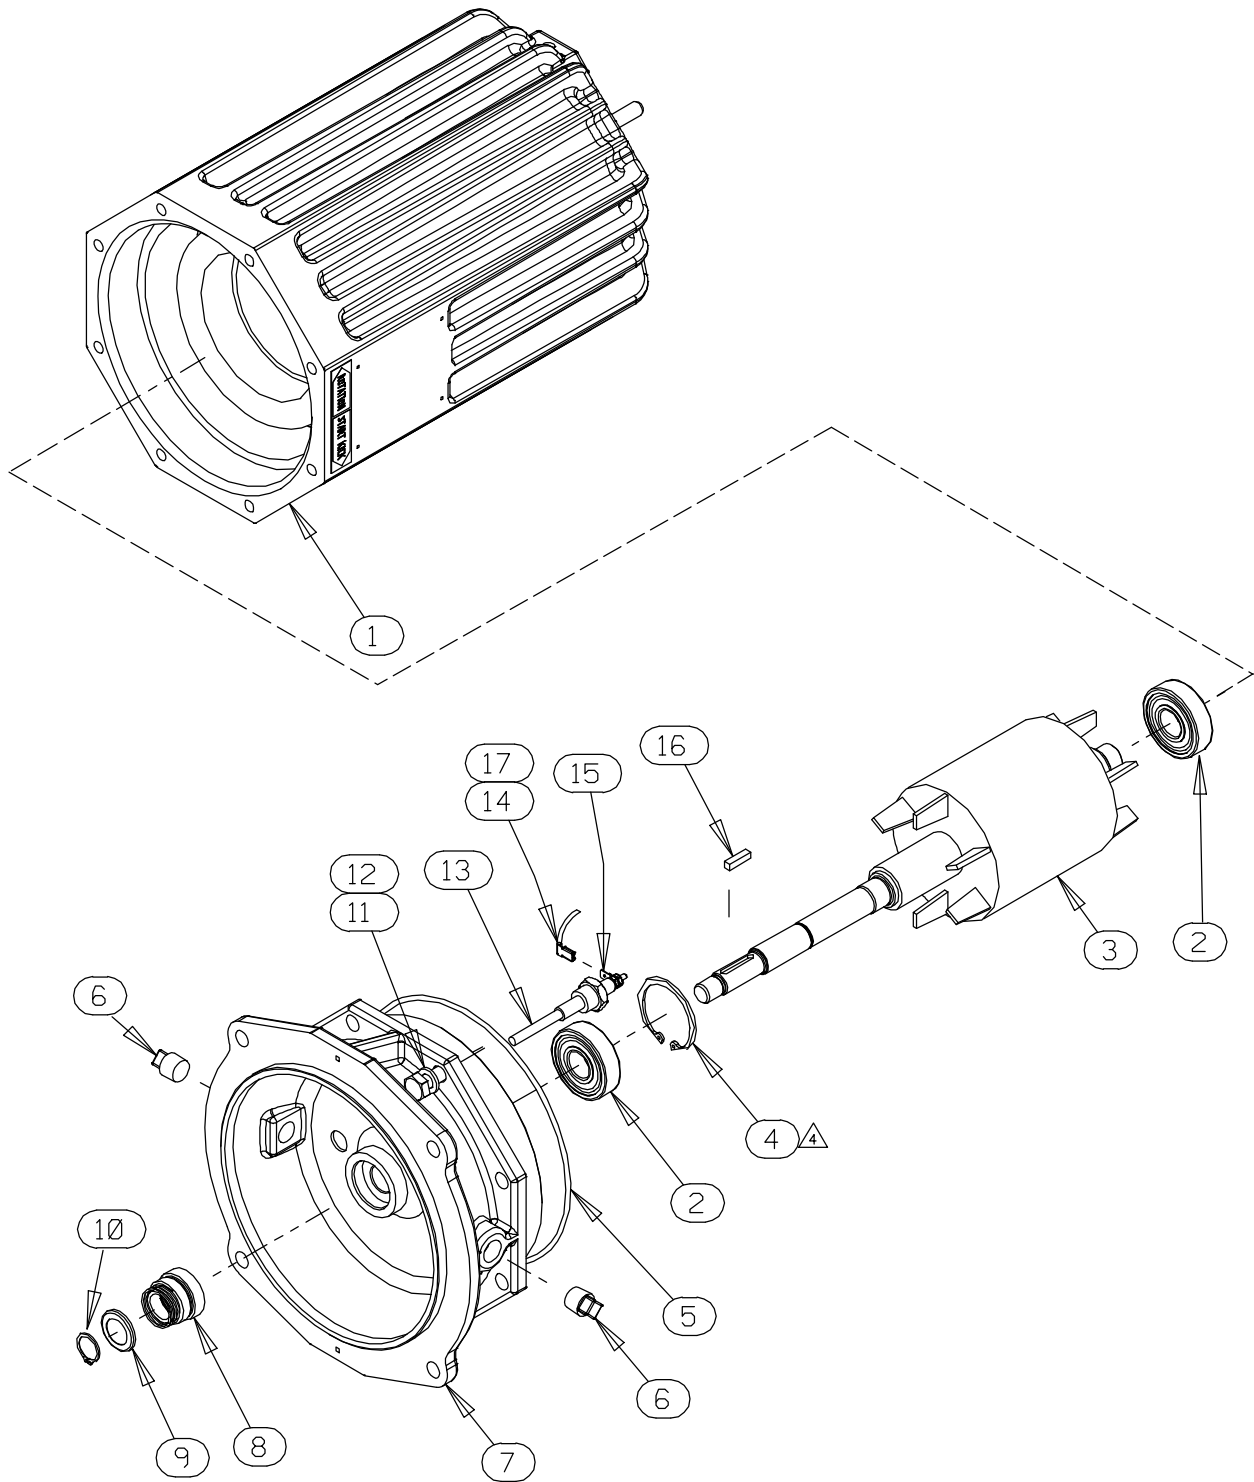

Figure E-2. 47111-801, -804, -805 and -851 Motor Assemblies
(Figure E-2)
To remove the impeller, use two thin-bladed screwdrivers positioned 180° apart to pry on the back of the impeller and “walk” the impeller off the shaft. Use increasingly larger screwdrivers (or wedges) as necessary. After the impeller comes free of the shaft, retain the impeller key (17, Figure E-2).
An alternate method of removing the stationary element is to remove the screws (16) securing the seal plate (14) to the motor assembly (7). Pry the assembled seal plate and stationary element off the shoulder of the intermediate (7, Figure E-2). Remove the O-ring (6) and press the stationary element and seat out of the seal plate from the back side.
(Figures E-2 and E-3)
With the pump inverted, stuff a clean tissue into the stationary seal seat bore of the intermediate (8, Figure E-2) or wrap a small rag around the shaft to prevent foreign material from entering the motor cavity.